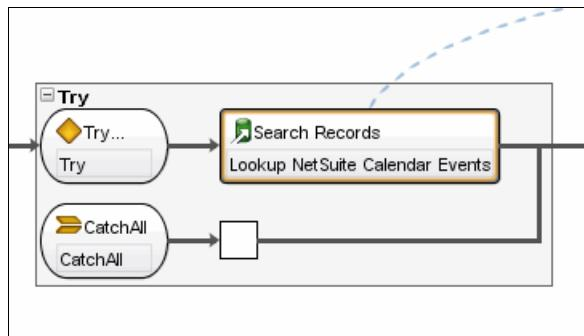

Figure 11-36 Search Records activity in the Try block
- Drag the Search Records activity into the Try block, as shown in Figure 11-36 on page 456.